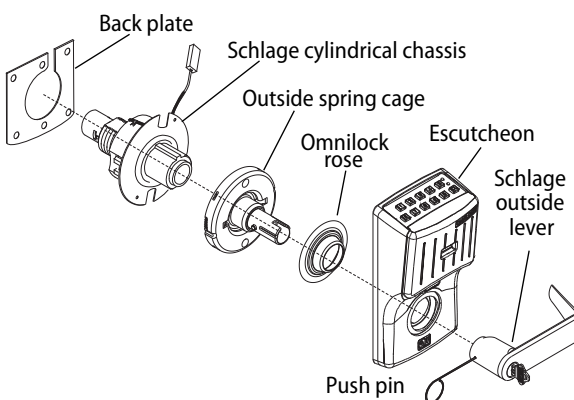

Figure 3 Assemble the escutcheon on the outside lever
- 2 Reassemble the cylindrical chassis according to Figure 3.